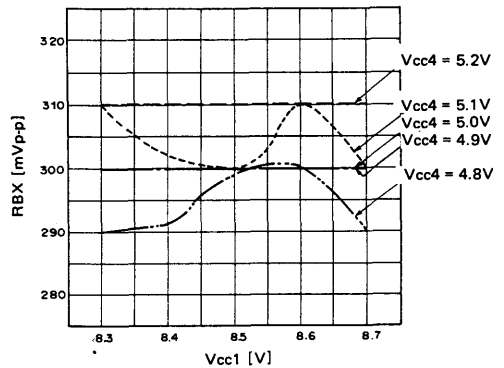

Fig. 6
- [6] Output variation of AGC amplifier due to the power supply voltage fluctuation (Fig. 6)